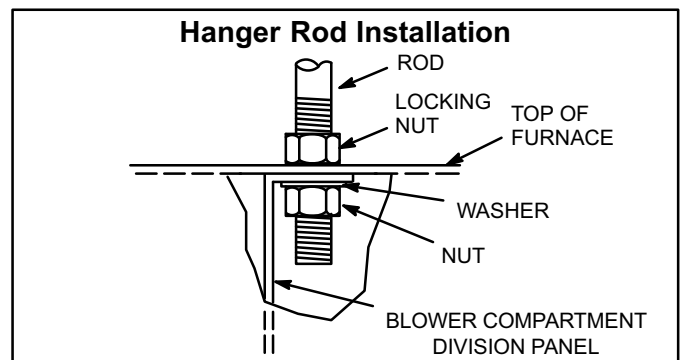

Figure 4
- Use one flat washer and two nuts for each rod (a nut and washer on the inside of unit and the other "locking" nut on the outside of unit; see figure 4). Level the unit by adjusting the nuts on the inside of unit.